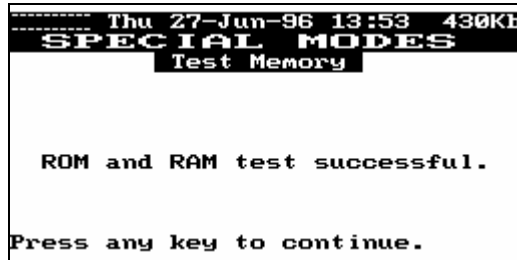

Figure 21
**SM12** Select **"5--Test Memory"** and press **[ENTER]**. The analyzer will display an in-progress information screen saying "Busy Please Stand By Testing RAM" and will count up memory as the test progresses. It should count to the amount of memory installed in your analyzer 512, 1024 or 1536 KB. If the test was successful, the screen in figure 21, below will be displayed. If any other message appears following the test, contact TEC Aviation Division for additional information and possible repair. As indicated at the bottom of the screen, press any key to continue.